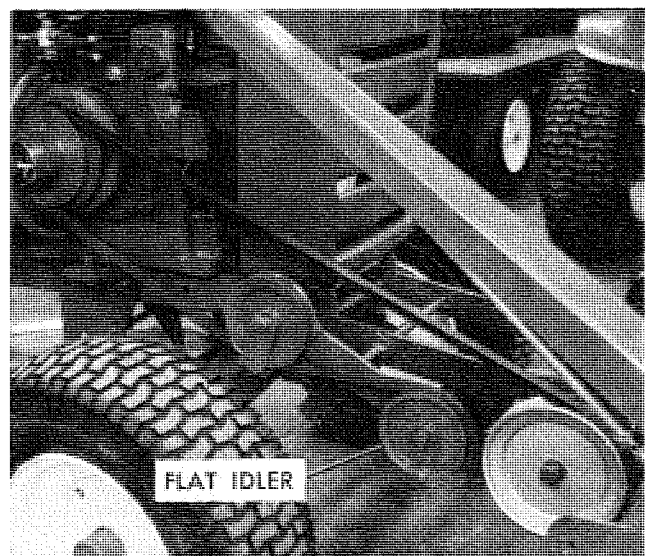

Figure 3
6. With washers (25) in place on the lift rod, insert the lift rod (28) in the end of the lift tube (27) and fit the other end of the lift tube over the pin at the lower rear center of the blower housing. Secure it with the  $\frac{3}{8}$ " washer and  $\frac{3}{16}$ " x 1" cotter pin. Install the lift rod stud in the top plate of the bottom tractor lift arm and secure with the hairpin cotter.
**Note:** The washers (25), in effect, lengthen the lift tube to provide more ground clearance in transport position. Because of variations among tractor models, the lift tube may strike the tractor front axle when the snow thrower is raised to the transport position. This can be corrected by removing one or both washers as necessary.
7. Raise the snow thrower to transport position. Fit the drive belt in the outer groove of the PTO clutch. Slip the lower strand of the belt between the belt guide bracket (11) and idler pulley (10) and attach the pulley to the idler arm (6) with the pre-assembled bolt and nut. Position the belt guide bracket perpendicular to the idler arm and tighten the nut securely.
8. Wrap the V-belt (29) around the drive pulley (16) and slide it hub-first on the drive shaft. Do not tighten the set screws at this time.
9. Hook spring (9) between the idler arm and the hole provided below the drive shaft in the blower frame. Rotate the idler arm assembly against spring tension and bring the lower belt strand over the flat idler as shown in figure 3. Align the drive pulley with the idler pulley and tighten both set screws.
2. With the shroud to the right, thread the cable from the upper side of the clip around the outside of the shroud and fasten to the outside cable clamp. See Fig. 3. Make sure it is inside the cable guide.